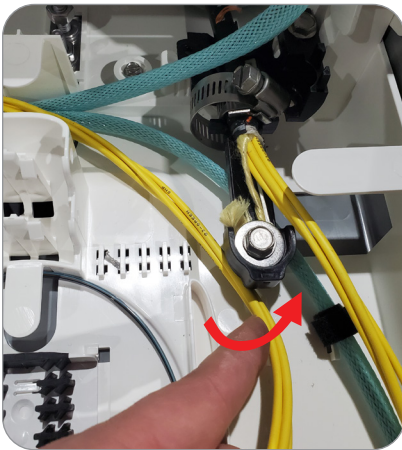

Figure 63
1. Route the subunits or buffer tubes around the inside of the box. Ensure they are routed under the Cable Attachment Unit (**Figures 63 and 64**).